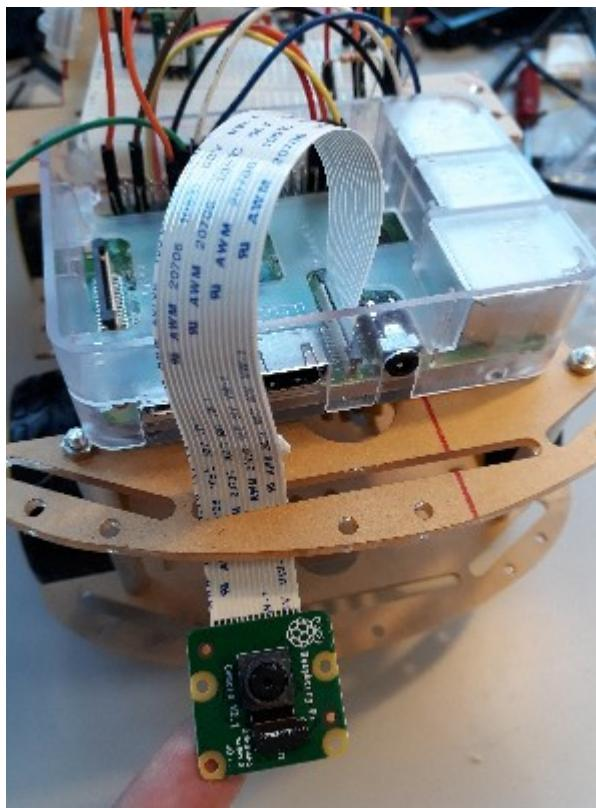

Figure 31: Camera board ribbon cable attached to the raspberry pi
Step 9: Finally the camera and camera mount can be attached to the buggy. First, slide the ribbon cable of the camera through the slot in the front of the buggy (figure 31). The camera is then connected to the raspberry pi using a ribbon cable. To connect the camera to the pi, you must lift the black clip shown in figure 31 and slide in the ribbon cable with the metal contacts facing away from the USB ports. Once the ribbon cable is in place, the black clip can be pressed down, locking the ribbon cable in. **If you struggle with this ask a demonstrator for help!! They ribbon cable is very easy to damage.**